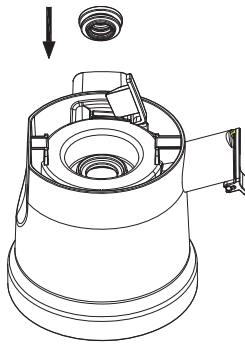

Fig 12b
- b. After Cleaning, please put it back to the center hole. The small ribbed surface should be should face upward (Fig.12b) Make sure the groove of the seal ring well fit in the squeezing bowl.